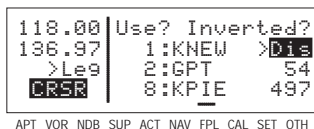

Figure 4-7
1. Turn on the cursor (**CRSR**); it will come up over the cyclic field, which in this case is displaying distance (**Dis**) in nautical miles (figure 4-7).